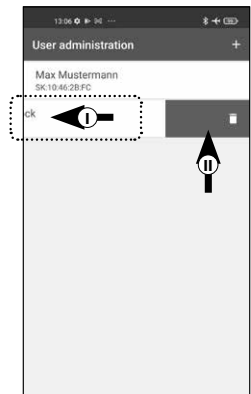

Fig. 66
- 4 A list of users is displayed. Swipe the entry of the user you wish to delete to the left (I) and tap on the "DELETE" field (II) that appears on the right (Fig. 66).